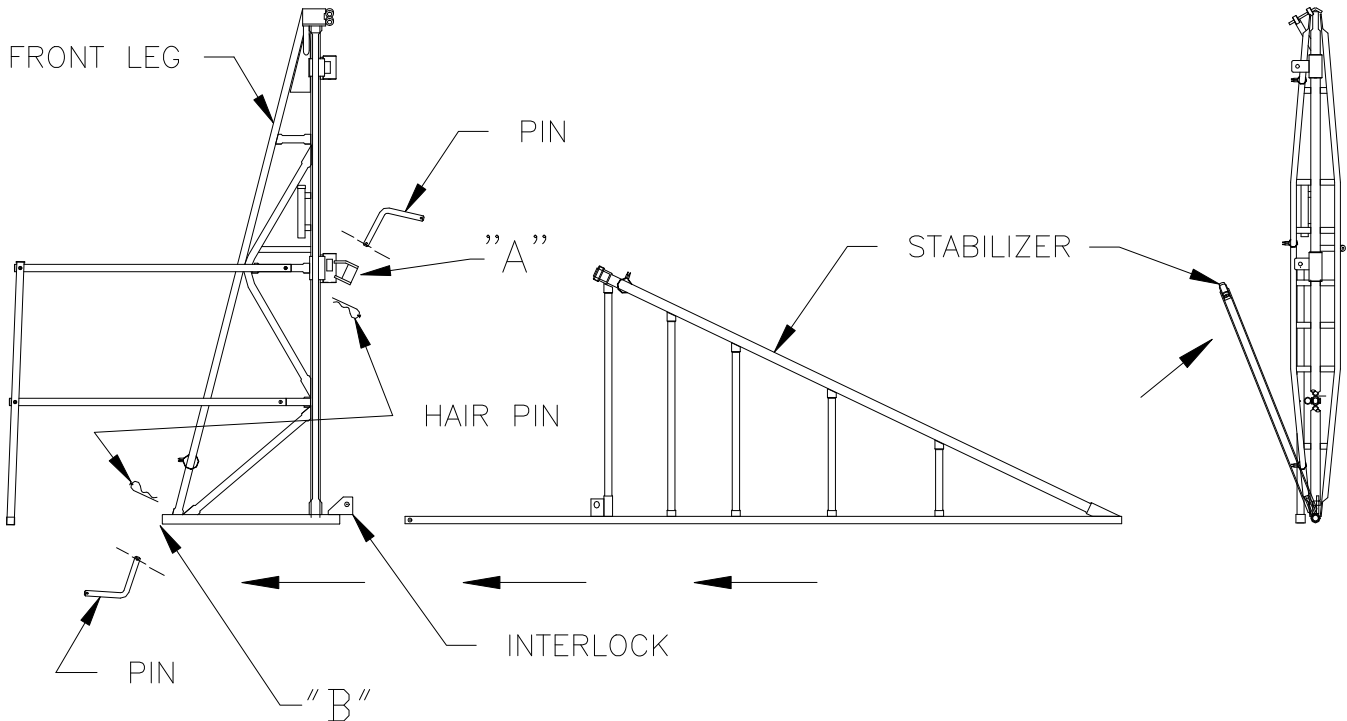

Figure 3-4.
4. Swing Stabilizer high enough to engage the interlock as shown in Figure 3-4.
5. Connect the upper pin and hairpin at point “A” between the Front Leg and Stabilizer. Connect the lower pin and hairpin at point “B” between the Front Leg and Stabilizer. These connections are shown in Figure 3-4.